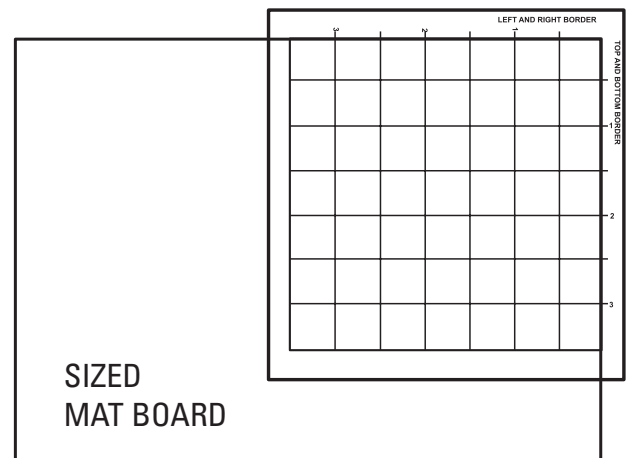

Fig.8
- Step 3** – Working from the back of your mat board place the Border Guide in the upper right hand corner of the board. Border Guide has a built in 90 degree edge that will locate the Border Guide onto the corner of the Mat Board ensuring accuracy. (Fig. 8)